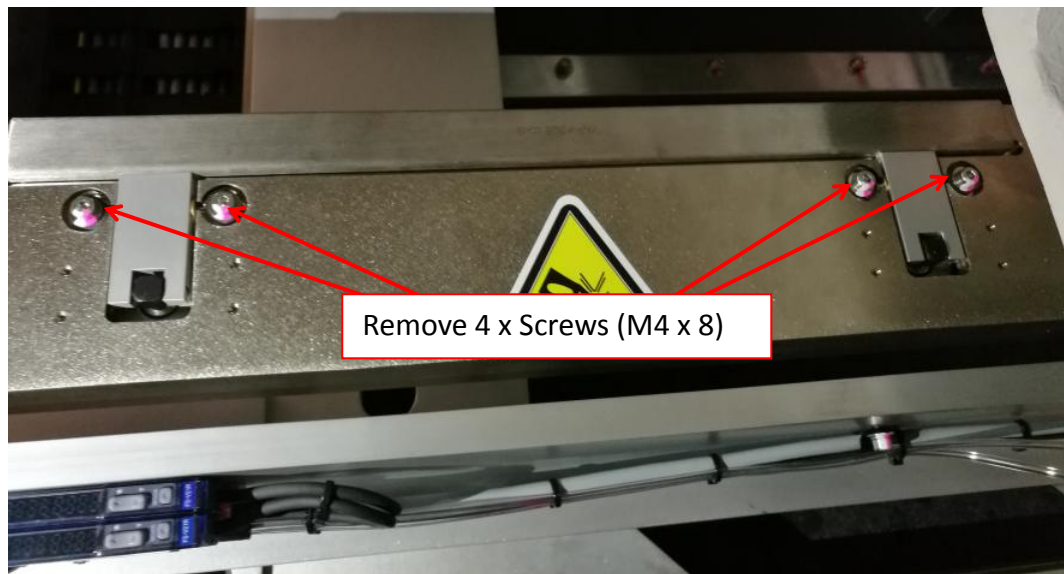

Figure 5 Clamper Screws Removal
6. Remove 4 x screws (M4 x 8) as shown in Figure 5.